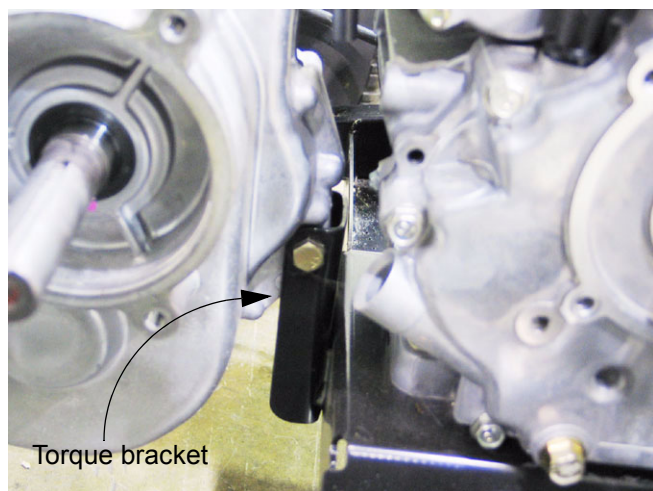

Figure 6.15
- 6.15. Remove the bolt holding the front of the transaxle to the torque bracket using two 9/16" wrenches. See Figure 6.15.